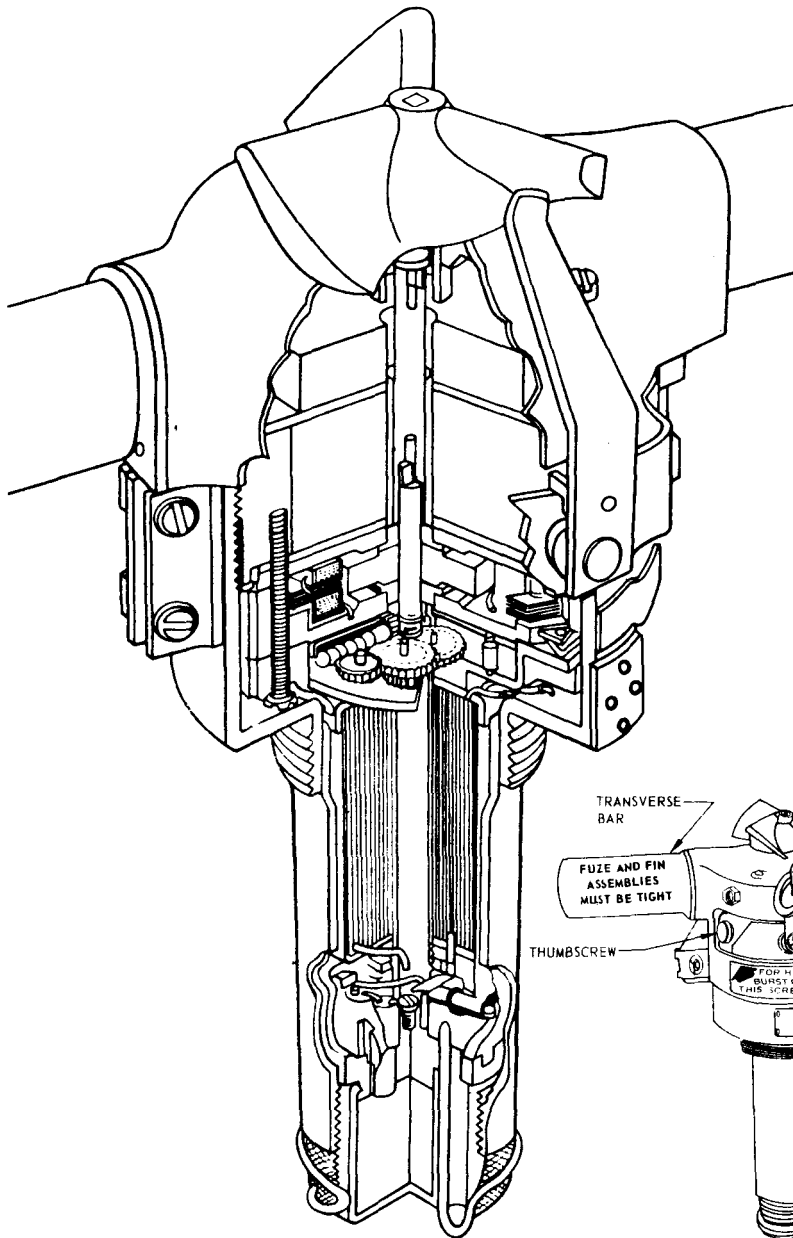

Figure 2-34A. Proximity Fuze M914 Cutaway
- 2-41. Type: Proximity Bomb Fuze M 914 (reference figures 2-34a and 2-34b)